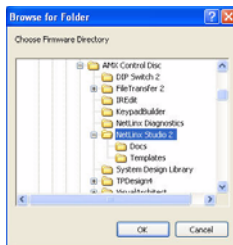

FIG. 111 Browse for Folder window
8. Select the appropriate Kit file from within the Browse for Folder window (FIG. 111).